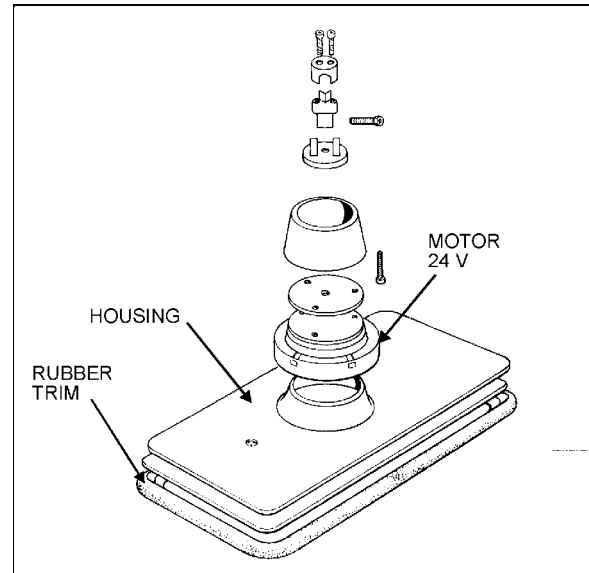

FIGURE 44: SPARTAN MIRROR 18203
1. Remove the rubber trim (Fig. 44).